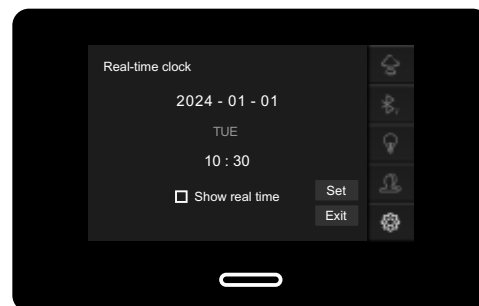

Figure 10
- Press  on the right of "Real-time clock" to enter "Real-time clock" interface. (Figure 10)
- Press the figures which need to be adjusted, there are small interfaces jumped out. You can slide them up and down to set the date, day and time. (Figure 10)
- Click the  at the front of "Show real time" for showing the clock when the control panel is in standby mode. (Figure 10)
- Press "Set" to save the setting and go back to setting interface. (Figure 10)